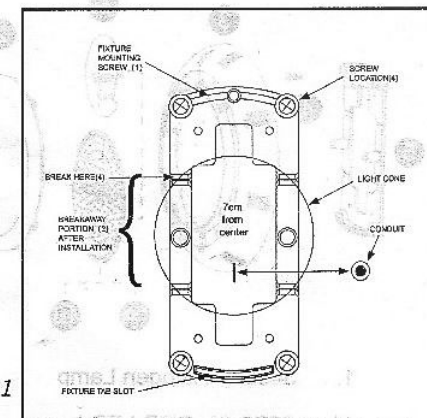

Figure 1
1. Locate mounting bracket next to conduit, see **Figure 1**.